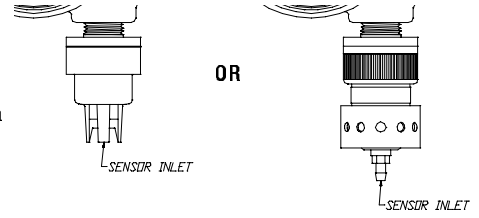

Figure 1. Non-plug-in Sensor Model
See FIGURES 1 and 2 to determine if your model has a plug-in sensor. Some sensors may not be part of the readout assembly but may be remotely located within 50 feet of the readout assembly.
1. Unscrew, remove and save the black sensor cap or SensorGard from the bottom of the Ultima Gas Monitor (FIGURE 1) or remote sensor.
3. Unscrew, remove and save the black sensor cap or SensorGard from the bottom of the Ultima Gas Monitor (FIGURE 1) or from the Remote Sensor.